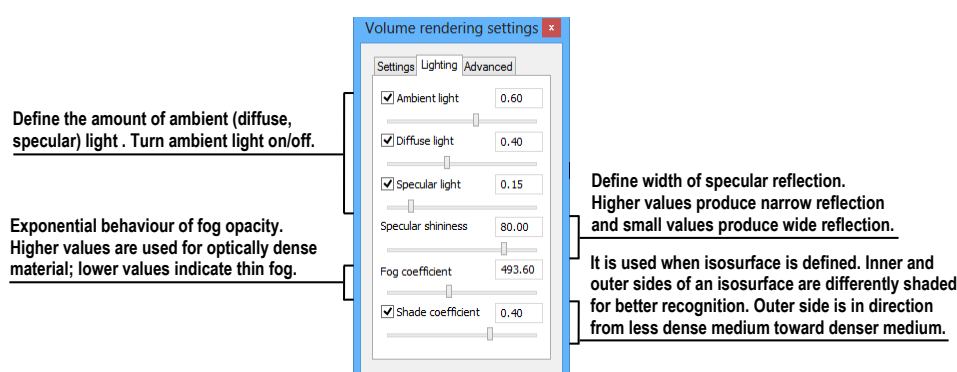

Figure 291 – Volume rendering settings, the second tab
- lighting settings used in volume rendering on the second tab (see Figure 291)